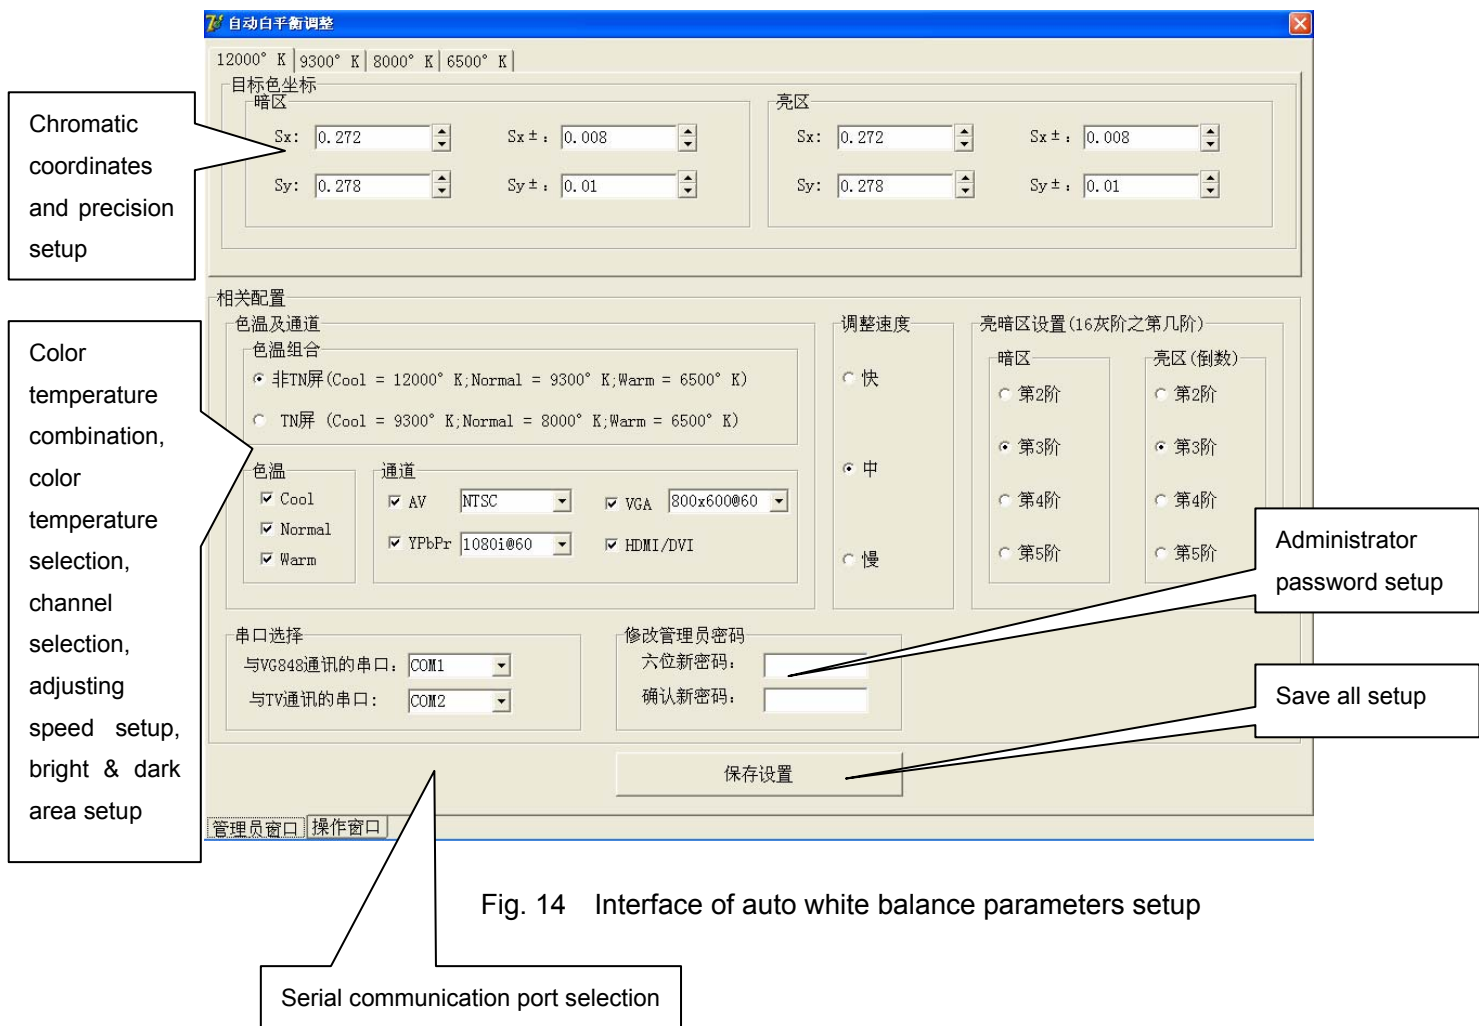
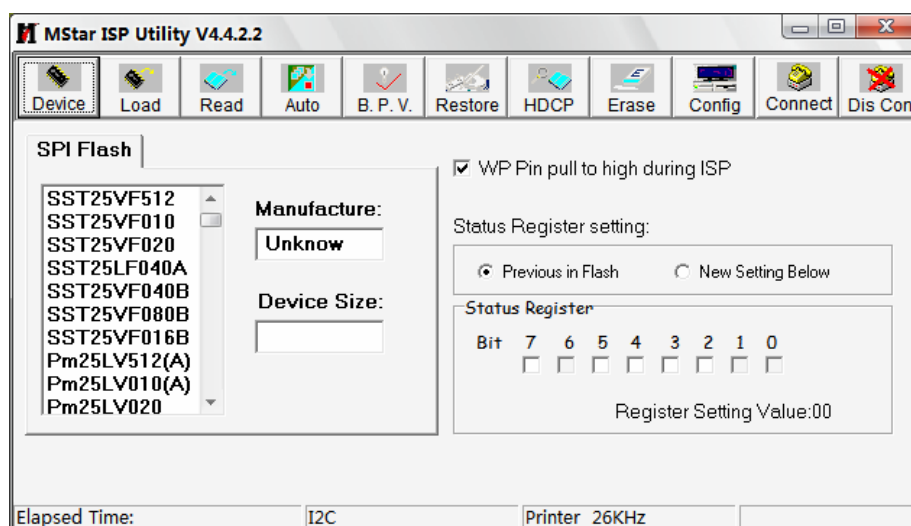

Fig. 14 Interface of auto white balance parameters setup
Fig. 15 Write-protect setup
4.4.4 Adjusting interface are shown as Fig. 14 and Fig. 15
- Using **Mstar** online burning program (V4.4.2.0 and higher versions), enter into menu “**Device**”, tick option “**WP Pin pull to high during ISP**”, ensure that hardware write-protect of Flash is removed and erasing process is normal, please refer to Fig. 15;